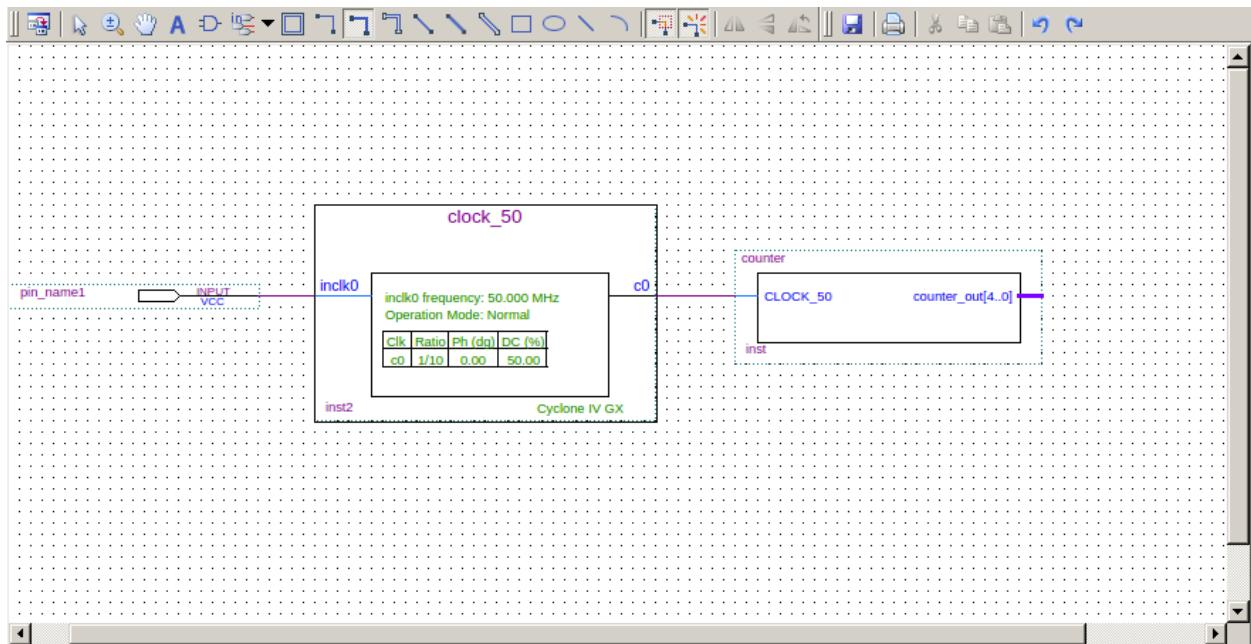

fig 3.1.14
- Place the new pin onto the BDF so that it is touching the input to the pll symbol. See fig 3.1.14